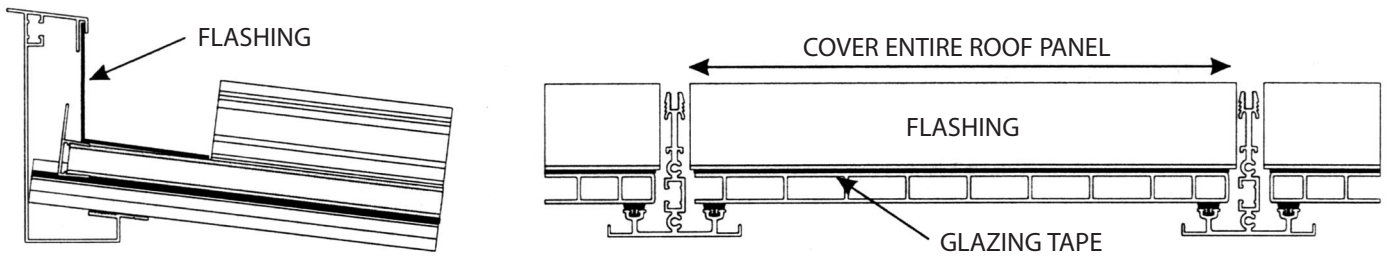

Figure 10 - Flashing in the Hanging Rail
2. Where the T-Bars are supported in the Hanging Rail a simple flashing shape should be used as illustrated in Figure 10.